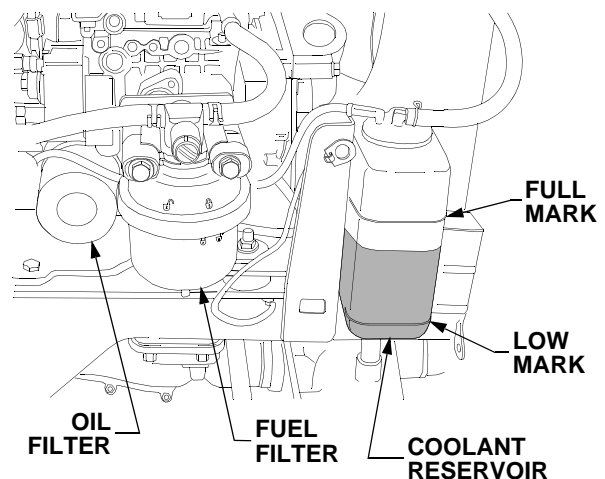

Figure 52
- Remove the filter by turning it counterclockwise using an automotive type filter wrench to loosen. See Figure 52.
- Raise the tractor hood and check the coolant level in the overflow reservoir on the *right* side of the engine. Refer to Figure 52.